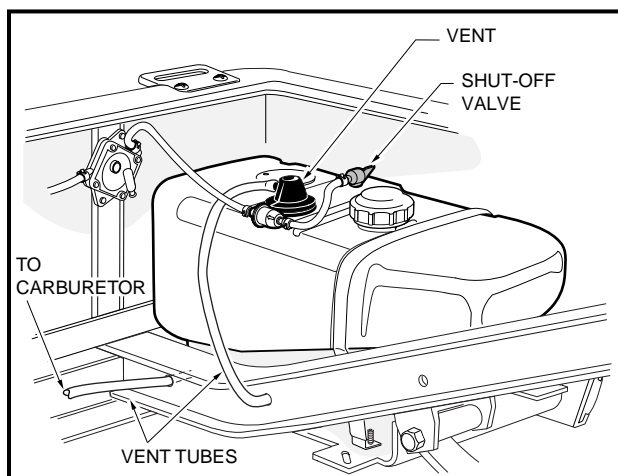

Figure 10-4 Gasoline Tank
- TURN FUEL SHUT-OFF VALVE TO CLOSED (OFF) (**FIGURE 10-4, PAGE 10-6**).
- IF THE VEHICLE HAS AN ALL-WEATHER ENCLOSURE INSTALLED, THE GAS TANK MUST BE PROPERLY VENTED AS SHOWN (FIGURE 10-4, PAGE 10-6).